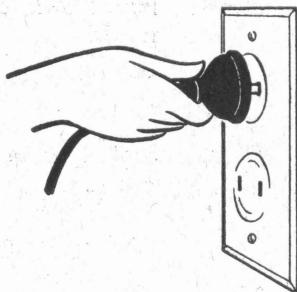

Fig. 22
3. Disconnect the iron by removing plug from the wall outlet-never by removing plug at the iron. Fig. 22.